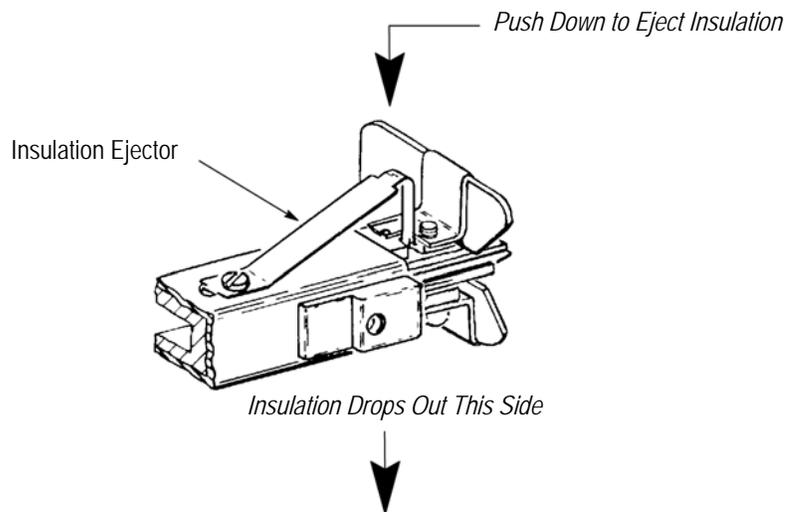

Figure 11
7. Push the insulation ejector to remove the stripped insulation from the tool before inserting the next wire. Refer to Figure 11.